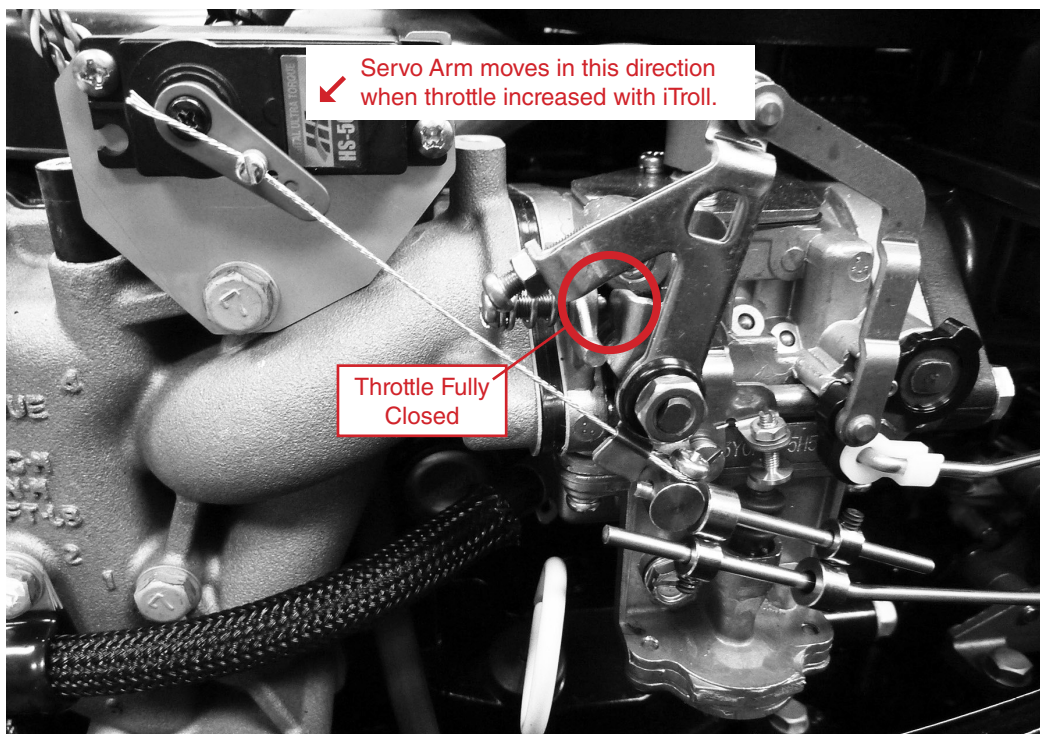

Figure 6 - Complete Installation
- Reference Fig. 6 to see if the stock throttle rod has a bend in it as shown.
- Install servo arm as shown in Fig. 6.
- Take up slack on cable. MAKE SURE throttle is closed (see Fig. 6). Tighten set screw in servo arm fitting with a flat screwdriver.